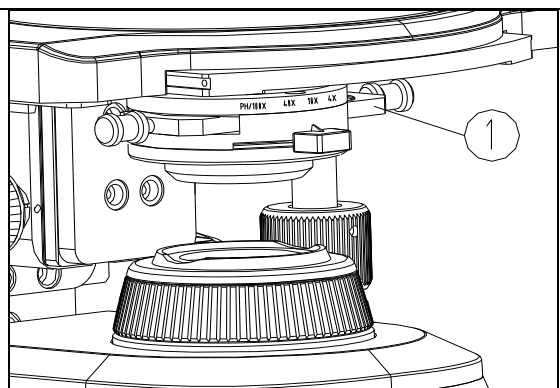

Fig. 33
When observing a fluorescence slide, pull or push the fluorescence shutter ① to the left until it connects with the detent indicating you have reached the fluorescence observation position (see Fig. 33). The transmitted illumination path is now totally blocked. Turn off the transmitted light adjustment knob.